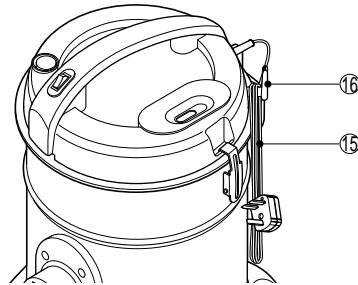

Fig.7 Hang the power cord
- Refer to Fig.7, wind the power cord ⑯ and hang it on the hanger ⑯.